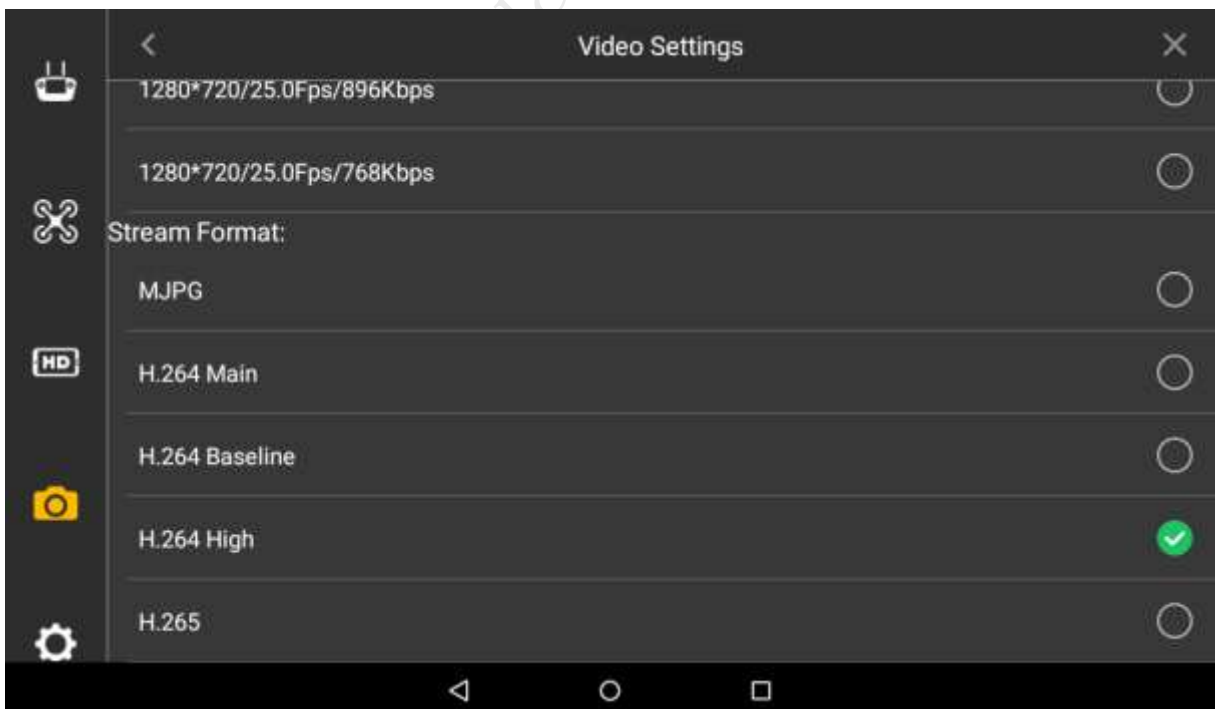

Figure 0-30
- Step 4 Select “Stream Format”, as shown in Figure 0-30.